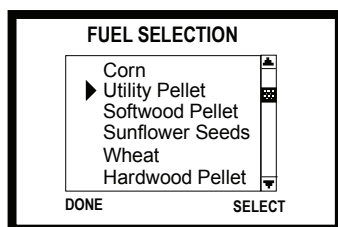

Figure 25.1
- For example, if you have selected wood pellets and you are burning corn, the appliance may not light, it may go out or overfeed. **Figure 25.1.**